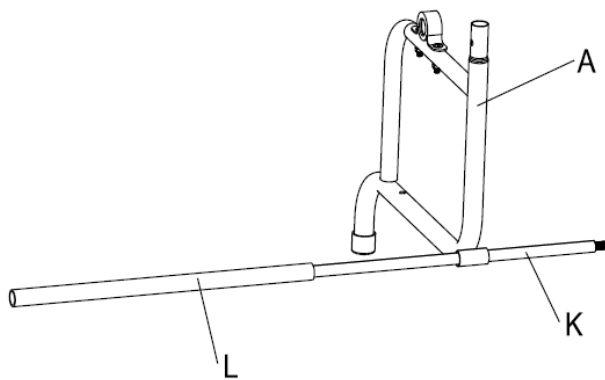
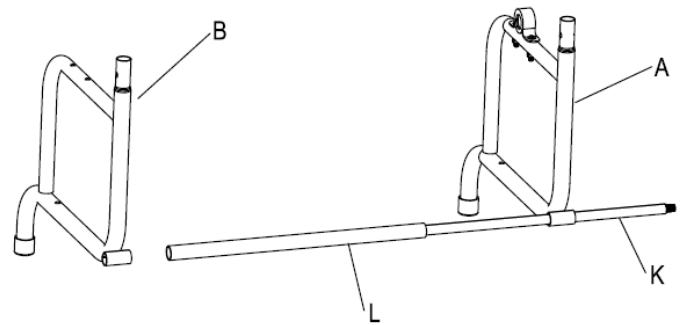
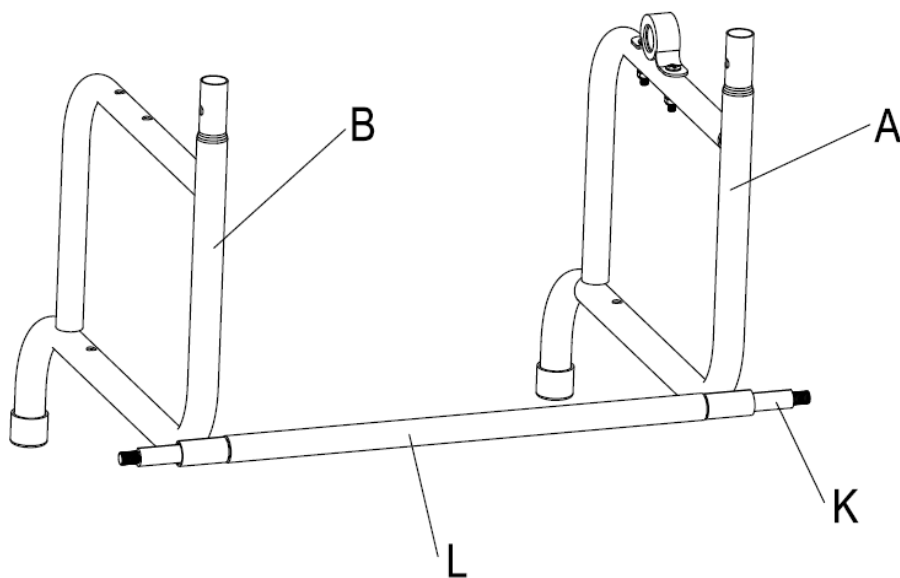

Figure 1.1
Figure 1.2
Figure 1.3
Step 1: Insert the Axle (K) through the Side Frame with Bearing (A), Axle Tube (L), and Side Frame (B). See Figure 1.1, Figure 1.2, and Figure 1.3.